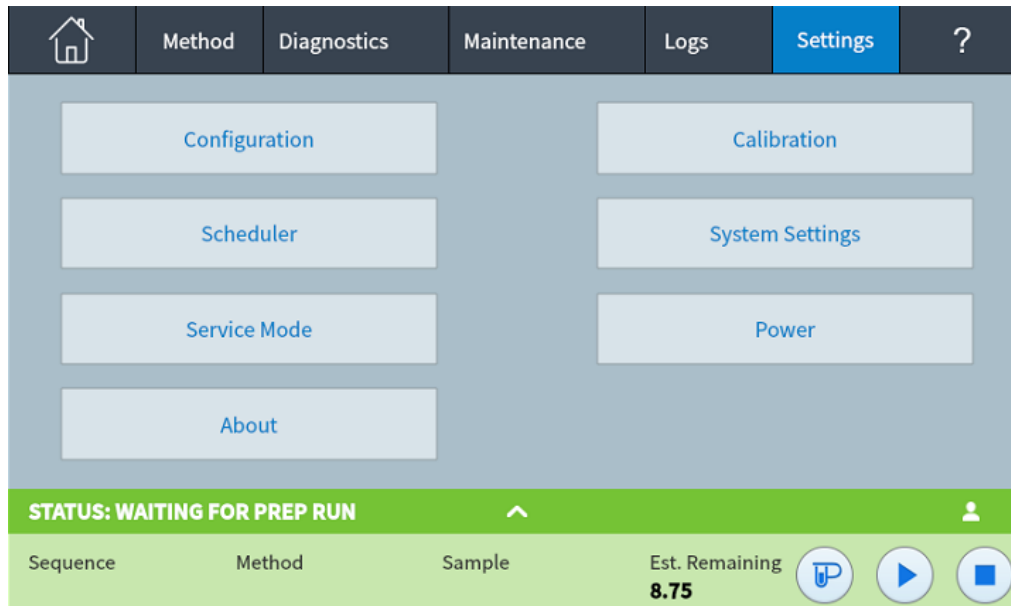

Figure 37 Settings view
Pressing **Settings** on the touch screen control ribbon brings up the Settings view. See Figure 37.
- 1 Press **Settings** on the touch screen control ribbon. The Settings view appears. See Figure 37 on page 106.